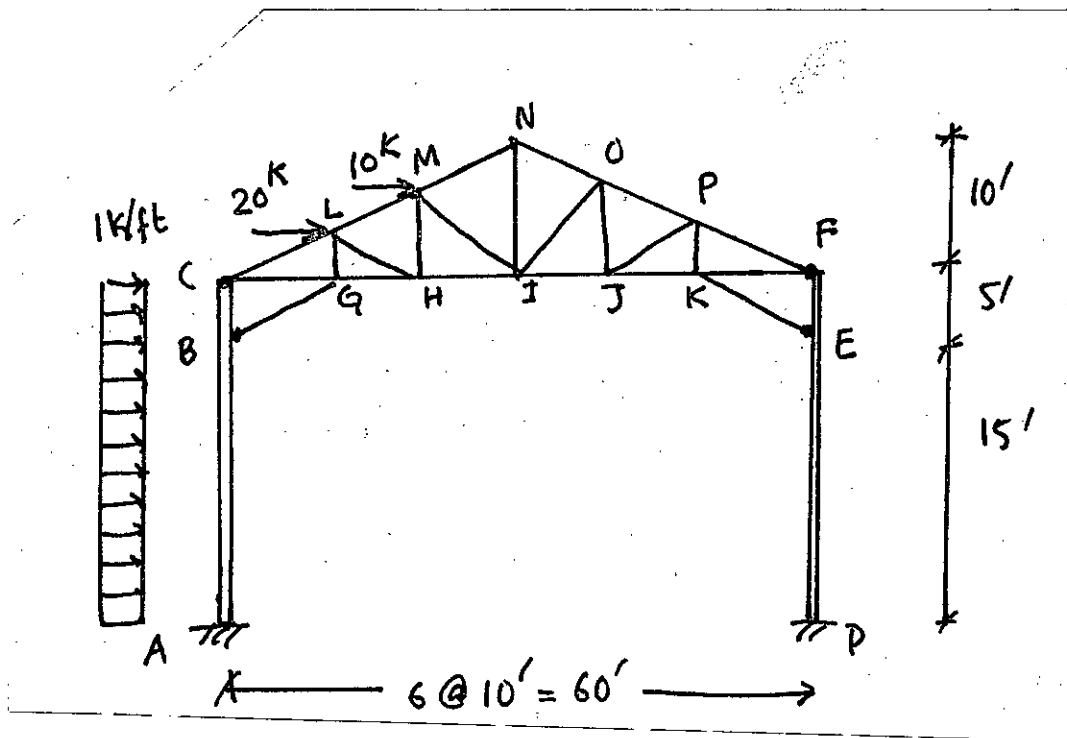

Fig. 8
10. Draw shear force diagram and bending moment diagram of the column ABC of the Mill Bent shown in Figure 8. Also find the bar force in the knee bracing BG and EK. (28)